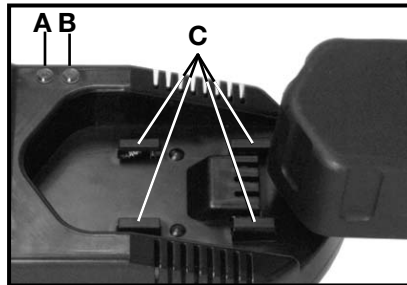

Fig. 8
Make sure that the power circuit voltage is the same as that shown on the charger specification plate. Connect charger to power source. The green light (A) Fig. 8 should begin to flash. This indicates the charger is ready to begin charging.
Position battery pack on charger, align rails on battery pack with four tabs (C) Fig. 8 on charger. Slide battery forward on charger until it stops.
The green light (A) Fig. 8 should begin to glow continuously, indicating that the battery pack is receiving a "Fast Charge" (if the green light does not glow continuously, or if the red light (B) Fig. 8 also begins to flash, see "DIAGNOSTICS").
Problems will be indicated by charger indicator lights (see Fig. 8):